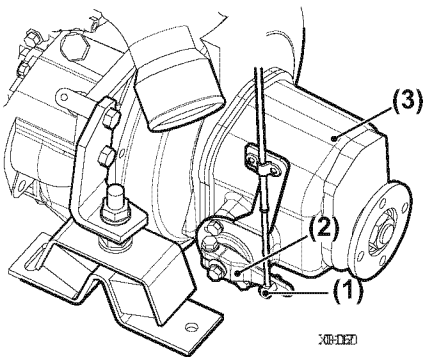
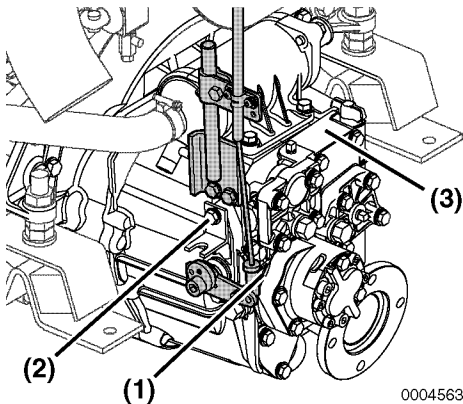

Figure 7
Figure 8
1. Ensure that the remote control lever (Figure 7, (2)) or (Figure 8, (1)) moves to the correct position when the remote control handle is in the NEUTRAL, FORWARD and REVERSE positions. Use the NEUTRAL position as the standard for adjustment.
2. To adjust, loosen and retighten the cable fitting (Figure 7, (1)) or (Figure 8, (2)).